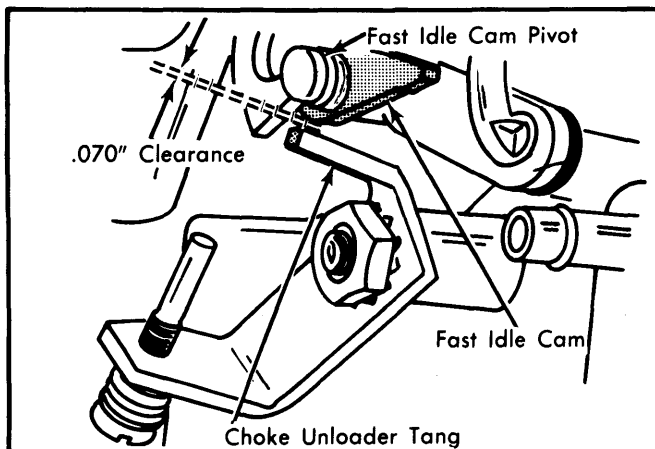

Fig. 7 Unloader-to-Fast Idle Cam Clearance
3) After adjustment is correct, open throttle until unloader tang is directly under fast idle cam pivot. Make sure there is .070" clearance between unloader tang and fast idle cam. See Fig. 7.